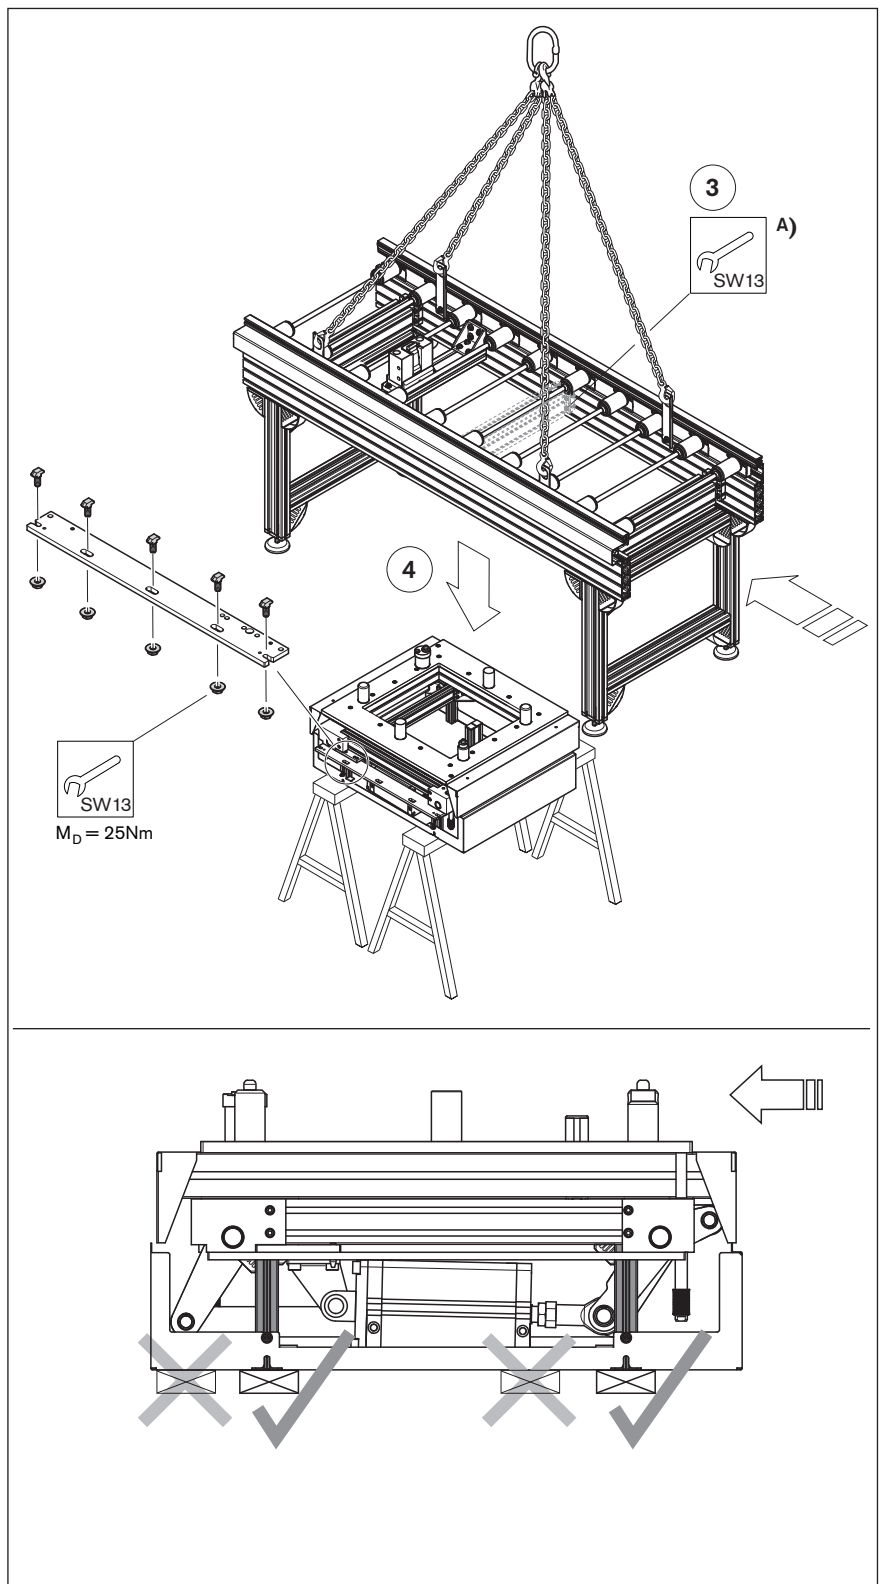

Fig. 49 PE 5, assembly from the bottom (3/4)
3. If necessary, relocate cross connectors for the conveyor unit in the area where the PE 5 is to be installed (Fig. 49: A).
4. Support the PE 5 positioning unit (Fig. 49, lower the ST 5/... conveyor unit onto it with a crane, align, and tighten together. The required openings are indicated by an arrow. Position of the PE 5: 59